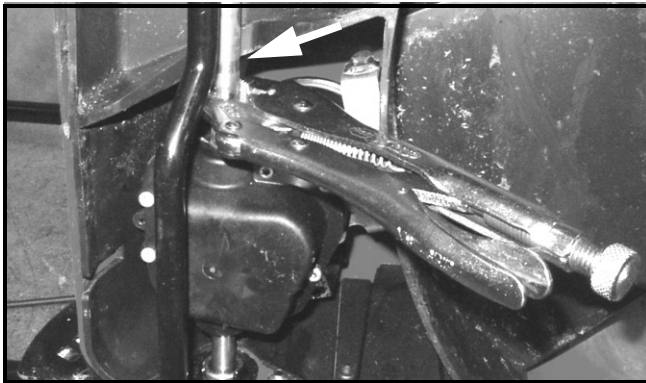

FIGURE 2
**NOTE:** Left (LH) and right (RH) is determined from the operator's position at the handle bar and facing forward.
5. Using a pair of vise grip pliers, securely clamp onto the transmission's output shaft as shown in Figure 2.